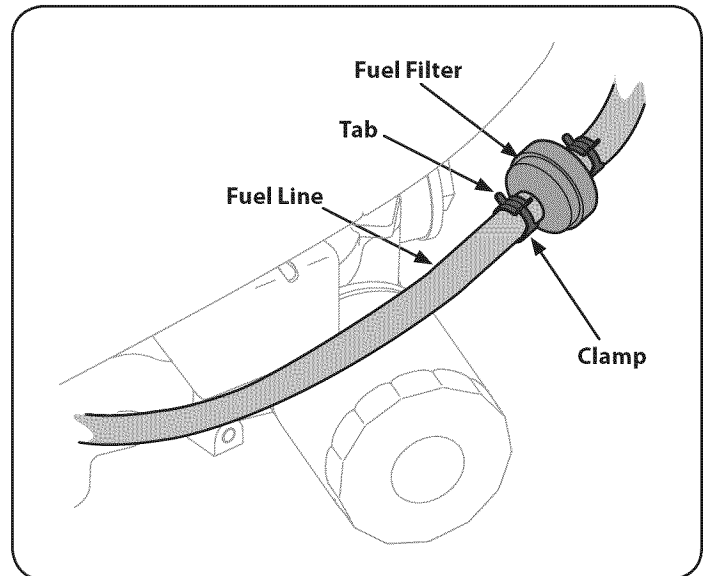

Figure 30
2. Use pliers to squeeze the tabs on the other clamp (the out-line side of the fuel filter), and slide the clamp away from the fuel filter. Twist and pull the fuel line off of the fuel filter. See Fig. 30.